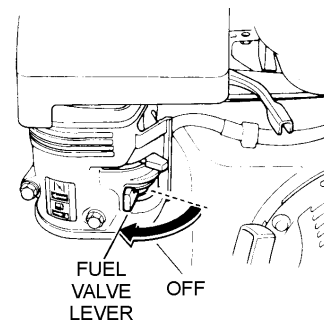

Figure 16. Fuel Valve Lever (OFF)
- Place the fuel shut-off lever (Figure 16) in the "OFF" position.